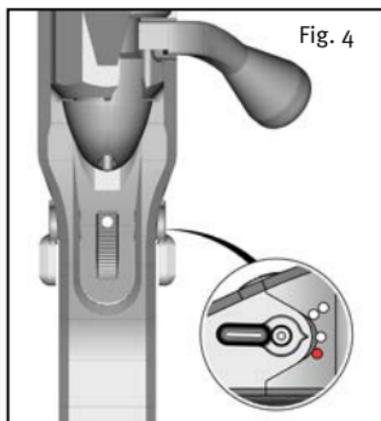

Fig. 4
Safety Position (Fig. 4):
Move rotary safety of the rifle to safety position (Fig. 4). Insert the magazine into the rifle and press it in until it locks with an audible click.
1. Move rotary safety of the rifle to Safety Position (Fig. 4).
By turning the bolt handle 70° upwards and retracting the bolt the dust cover, ejection port is opened automatically and the spent cartridge shell will be extracted and ejected. Moving the bolt forward will feed a new cartridge into the cartridge chamber of the barrel. Relock the bolt by turning the bolt handle. Move rotary safety back to Safety Position (Fig. 4)
1. Move rotary safety in Safety Position (Fig. 4).
4. Move rotary safety slide to Safety Position (Fig. 4).